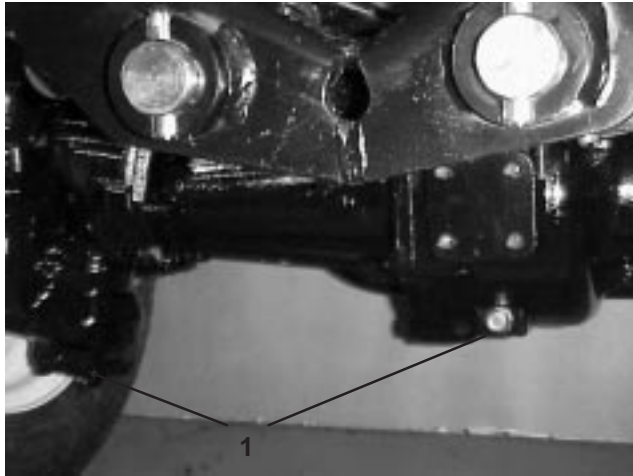

Figure 66
2. Clean the area around the 3 drain plugs, 1 on each end and 1 in the center (Fig. 66).
3. Remove the (3) oil level check plugs and main axle vent cap to ease in draining of the oil.